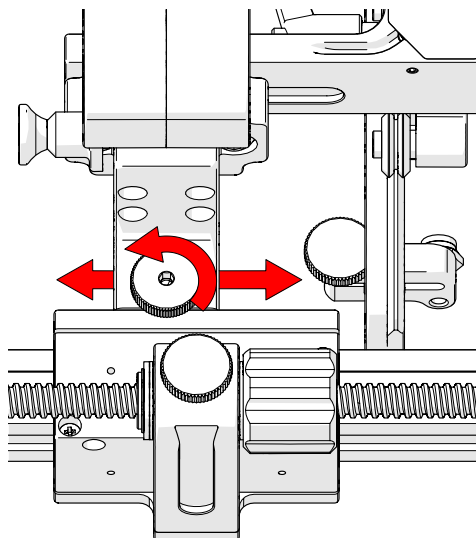

Fig. 49 - Mount to slider pps
3. Loosen the knob to position the probe holder horizontally along the slider pps slider (Fig. 49). Tighten the probe holder adjustment knob when positioning is complete.